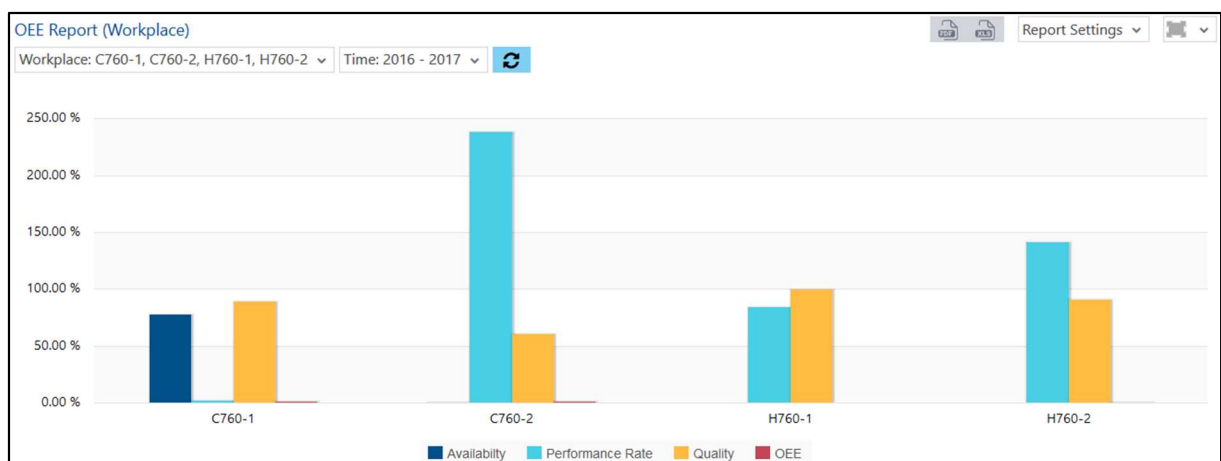

Fig. 41: OEE Report (Workplace) as a column chart
- OEE Report (Workplace) as a column chart (Fig. 41):